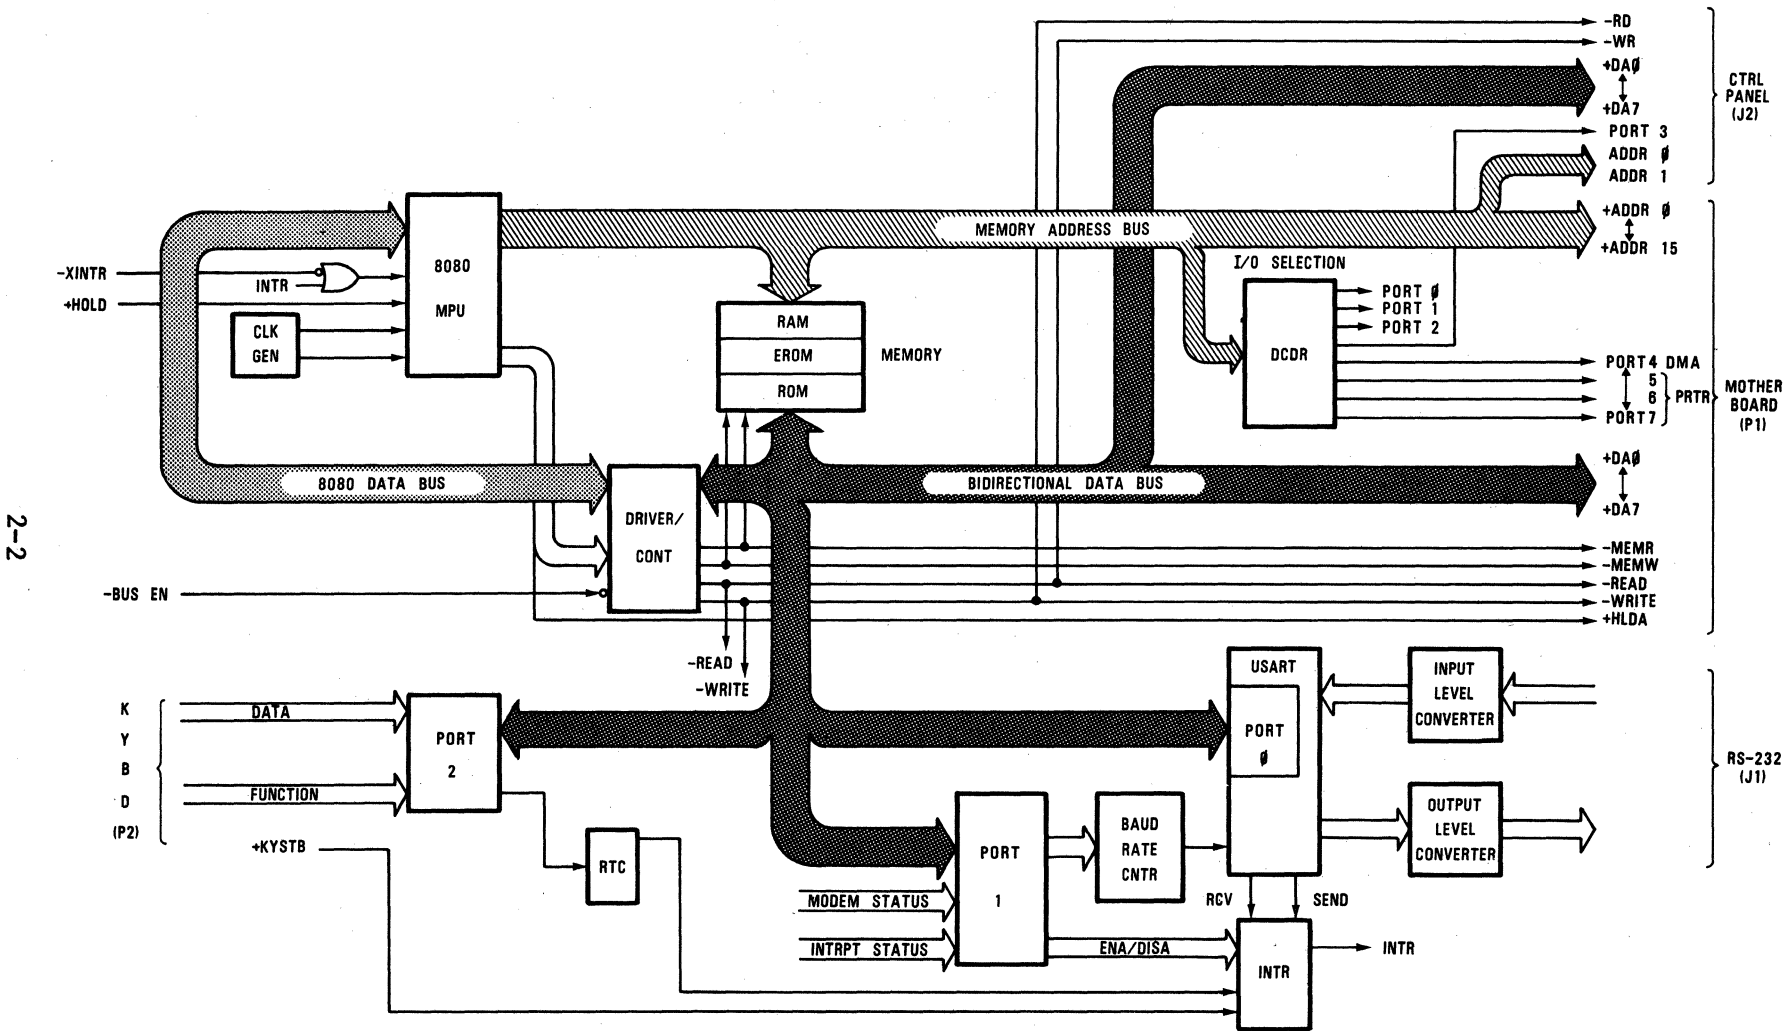

Figure 2-2. Block Diagram, HPRO3 Board
2.2 PROCESSOR (HPRO3) BOARD (Figure 2-2)